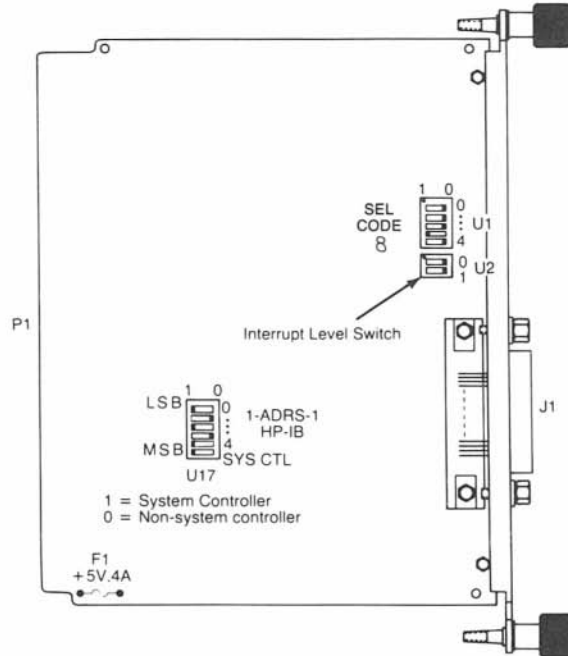

Figure 5-7. HP 98624A HP-IB Interface switches.
- Find the set of five switches labeled U1 on the HP-IB Interface (see Figure 5-7). This group of switches determine the interface's select code.
- If you need to change the interrupt level, refer to Figure 5-7 and set the switches labeled U2 according to the following table:
- a. If connecting two computers together via HP-IB, only one of them may be set to address 21. To change the address of this interface, reset switches 0 thru 4 in the group of switches labeled U17 (see Figure 5-7). As an example, to change the address from the default setting of 21 to a new setting of 20, just change switch 0 in this group to **0** (the opposite of that shown).
- b. If connecting two computers together via HP-IB, only one of them may be set to system controller. To change this interface to non-system controller, move the SYS CTL switch shown in Figure 5-7 to the 0 position (the opposite of that shown).